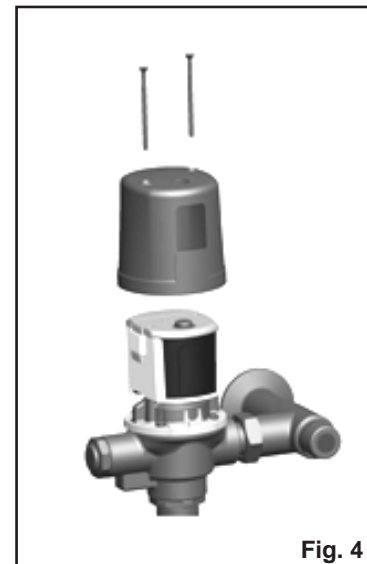

Fig. 4
- Remove the cover by taking out the two cover screws. See Figure 4.